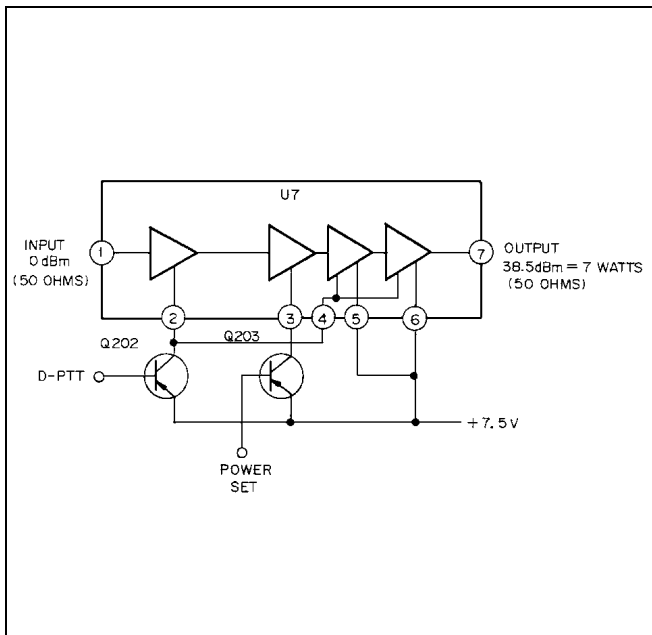

Figure 6 - Power Amplifier (PA) UHF
Power Amplifier (PA) U7 is a four-stage, wideband amplifier module with an input and an output impedance of 50 ohms (Figure 6). The second stage of the PA module has the dc power supplied by power set transistor Q203. The rf power output from amplifier is connected to pin 1 of the PA module where it is applied to the input of the RF power amplifier stages. The RF power amplifier stages amplify the input from the Tx-Amp module to a typical power output level of seven watts at pin 7. The output at pin 7 is connected through the LPF/DC/SW module. A minimum power level of five watts is on the output of the LPF/DC/SW module.